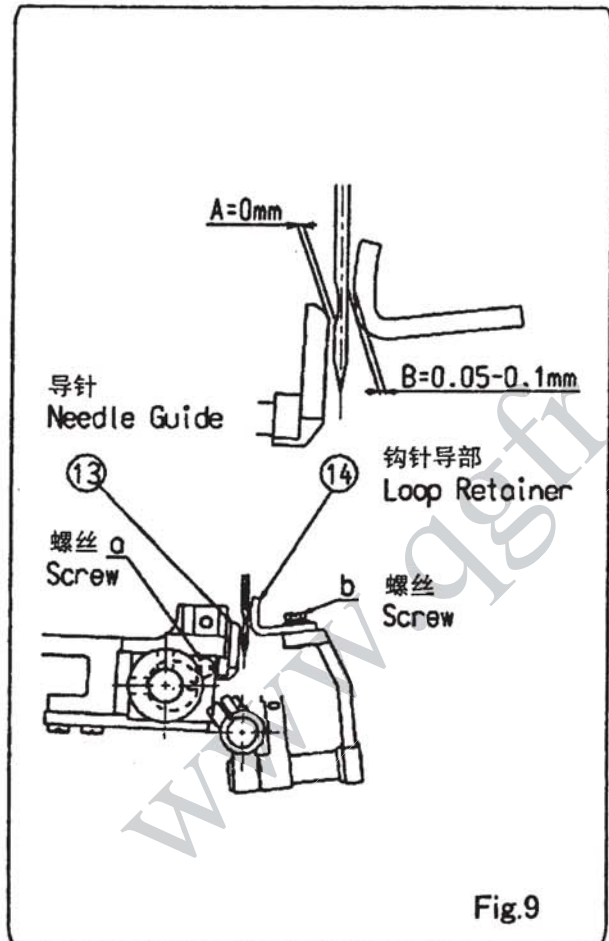

Fig.9
Loosen set screw, (a) of Fig.9, of Needle Guide ⑬, and adjust Needle Guide ⑬ so that clearance between Needle and Needle Guide (clearance 'A' of Fig.9) is 0(zero)mm, as Needle goes up. Firmly tighten set screw (a) after adjustment. Be sure that Needle Guide will not push Needle. Turn pulley by hand to confirm that Needle Guide does not push Needle. (If Needle Guide pushes Needle, Needle may break during operation.)
Loosen set screw, (b) of Fig.9, of Loop Retainer ⑭, and adjust Loop Retainer ⑭, so that clearance between Needle and Loop Retainer (clearance 'B') is 0.05 to 0.1mm. Firmly tighten set screw (b) after adjustment.
针导杆⑬与环状导杆的关系, 针由最下面的位置上升时, 如图所示Fig.9, 松开螺丝a来调整针导杆⑬, 针与针导杆的间隙调整为A=0mm, 然后锁紧螺丝a。这个时候, 请转动滑轮确认针导杆是否碰到针, 若缝针被压到, 将造成针折断。